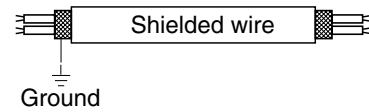

Fig. 4-4
- (5) Use shielded wires for inter-unit control wiring (c) and ground the shield on one side, otherwise misoperation from noise may occur. (Fig. 4-4)